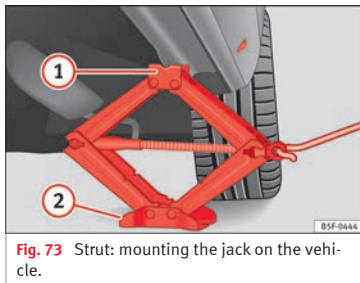

Fig. 73 Strut: mounting the jack on the vehicle.
- Turn the jack* crank handle, located below the strut support point, to raise it until the tab **1** » **Fig. 73** is below the housing provided.